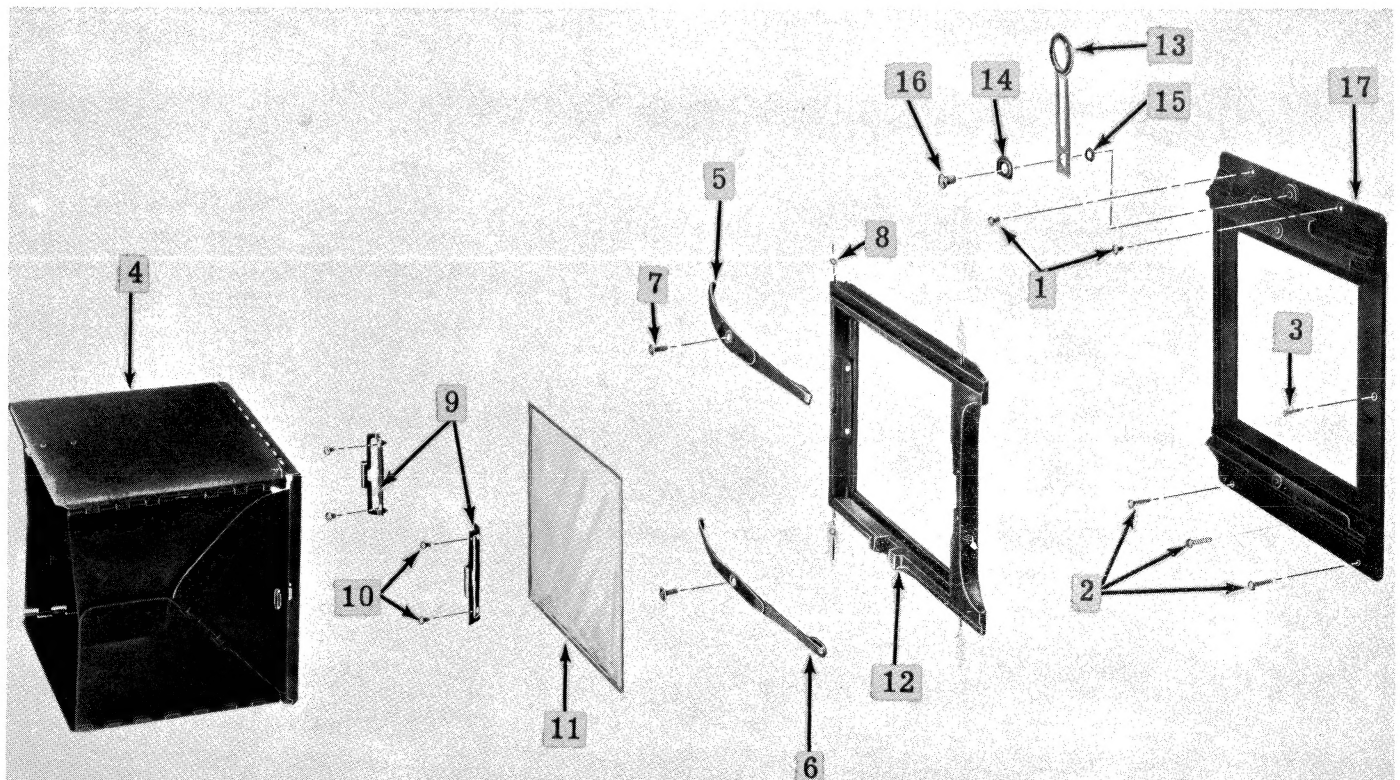

Figure 3. 4 x 5 Graphic Camera Back, Exploded View
1. Loosen the top and bottom focusing frame spring assemblies (5 and 6, figure 3) that are secured by machine screw and washer (7).
2. Remove two short self-tapping screws (1) at the top, the long self-tapping screws (2) at the bottom, and one wood screw (3) at the right side, if used.
3. Remove the hood assembly (4) by pressing outward on the tab of the hood retainer (9).
4. Remove the two hood assembly retainers (9) and the focusing screen (11).
3. Check the focusing frame assembly (12, figure 3) and the back (17) on a machined surface plate. If these parts do not lie absolutely flat, they must be straightened.
(b) To assemble the peepsight assembly (13, figure 3) position the peepsight washer (15) over the mounting hole on the outer surface, lay the peepsight assembly (13) in the slot provided, position the peepsight cap (14), and assemble the machine screw (16). The washer and cap should lie with their flat sides toward the base of the sight. The sight should swing in the slot. Apply a touch of shellac beneath the screw head and tighten.